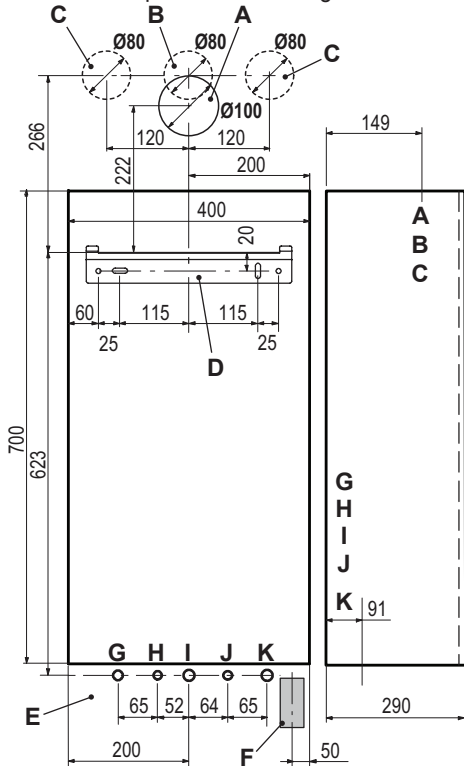

Fig. 6.2
- Fix the water valve "O" ($\frac{1}{2}$ " to position "J" (Fig. 6.2) using the $\frac{1}{2}$ " gasket.
- Fix the C.H. valves "N" to position "G" and "K" (Fig. 6.2) using the $\frac{3}{4}$ " gaskets.
- Fix the gas cock "P" to position "I" (Fig. 6.2), using the $\frac{3}{4}$ " gasket.
- Fix the \varnothing 15 mm copper pipe "Q" to position "H" (Fig. 6.2) using the $\frac{1}{2}$ " gasket.